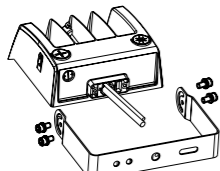

Figure 4.2
STEP 2: Tighten the brackets and screws (Figure 4.2)